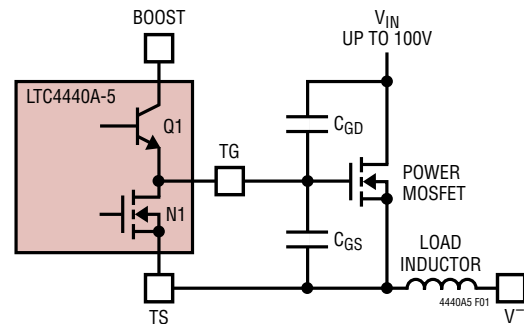

Figure 1. Capacitance Seen by TG During Switching
A simplified version of the LTC4440A-5's output stage is shown in Figure 1. The pull-down device is an N-channel MOSFET (N1) and the pull-up device is an NPN bipolar junction transistor (Q1). The output swings from the lower rail (TS) to within an NPN V_{BE} ($\sim 0.7V$) of the positive rail (BOOST). This large voltage swing is important in driving external power MOSFETs, whose $R_{DS(ON)}$ is inversely proportional to its gate overdrive voltage ($V_{GS} - V_{TH}$).